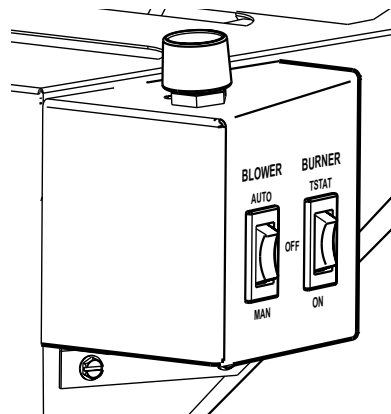

Figure 30. Burner Switch and optional Blower Controls
- Once the pilot is lit, burner operation is controlled by the rocker switch located at the left corner of the rear shroud. See fig. 30.